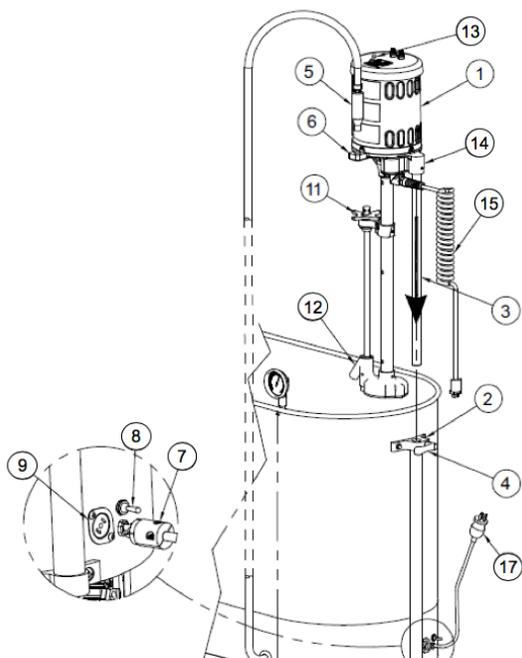
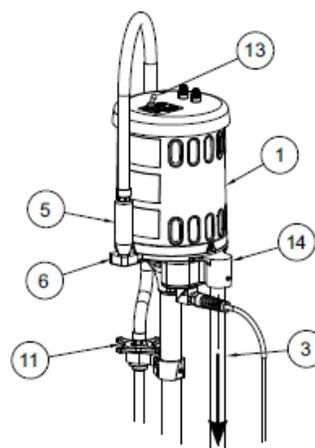

Figure 4: Detail of –SL-SDP Whirlpools
Figure 5: Detail of –SL model without -SDP
2. For –SL models (Figure 5) and -SL-SDP models (Figure 4): Place discharge nozzle (5) into storage socket (6). For –SL-SDP models only: water will flow through hose if discharge nozzle (5) is lower than water level.
3. Turn the pressure control valve handle (11) fully clockwise, then fully counterclockwise to completely lubricate the plunger assembly.
4. For –SL–SDP models only (Figure 4): Insert electrical cord twist-lock plug (7) into socket (9) and turn clockwise a quarter turn to lock in place. Ensure plug cover is firmly against the receptacle (9).
5. Turn the turbine power switch (13) off.
- a. Place discharge nozzle (5) into floor drain or sink.
- b. Turn the drain pump switch (18, Figure 4) on. When water stops discharging from the nozzle, turn the drain pump switch off.
- c. Some residual water will remain in the drain pump. To remove this water, lower the discharge nozzle (5) to the floor and clean with a towel or sponge.
- e. Place discharge nozzle (5) into socket (6). Note: water will flow through hose if discharge nozzle (5) is lower than water level.